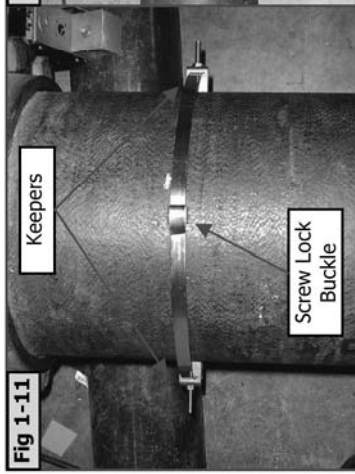

Fig 1-11
- Roughly locate the Keepers on the horizontal plane of the pipe. See Fig 1-11 and 1-12.